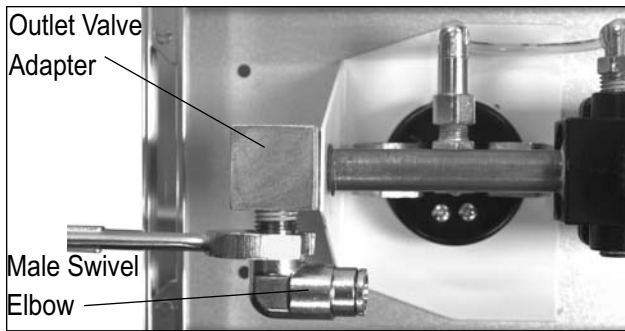

Figure 7
4. If remote outlet is used, remove pipe plug from outlet valve adapter and install provided 3/8" OD tube and 1/4" NPT male swivel elbow into outlet valve adapter (Figure 7).